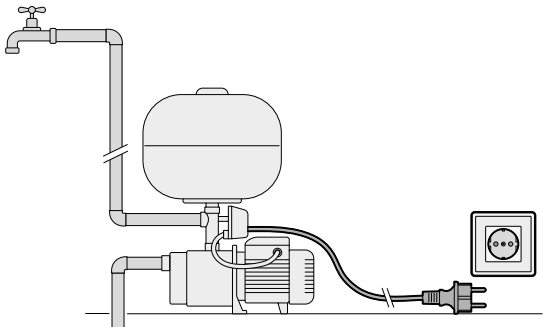

Fig. 3
- Insert the plug of the pump power cord into the EP device (**Fig.3**).